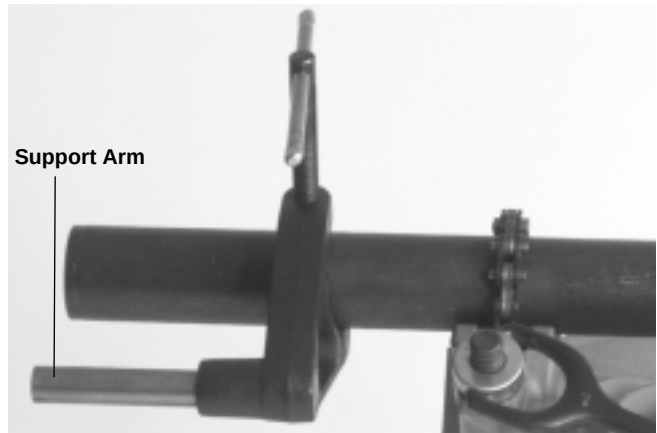

Figure 4 – Using No. 691 Support Arm When Threading ¾" Pipe and Larger
4. Position No. 691 Support Arm on pipe so end of support arm is in line with end of the pipe (*Figures 4 & 5*). Make sure jaws squarely contact pipe and tighten handle firmly to prevent slipping of the jaws.